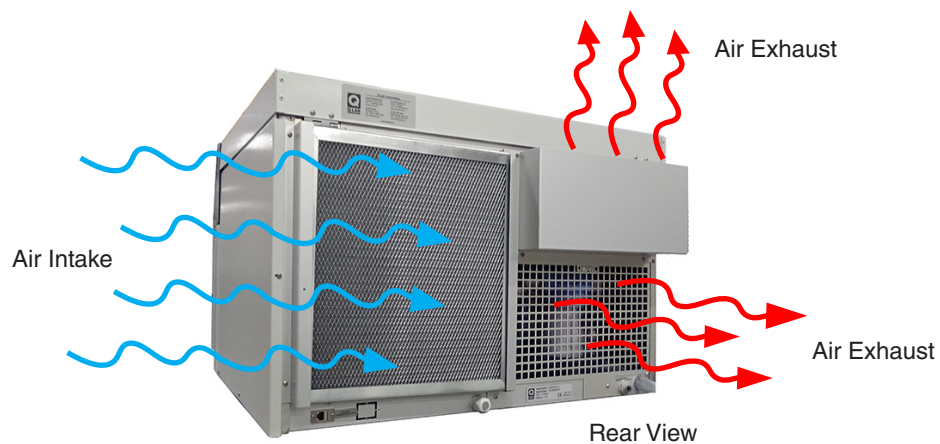

Figure 8.3b: Rear view Xe-1 air intake and exhaust areas.
- Air is pulled into the tester through a filter and exhausted through vents in the rear of the chamber (Figure 8.3b).